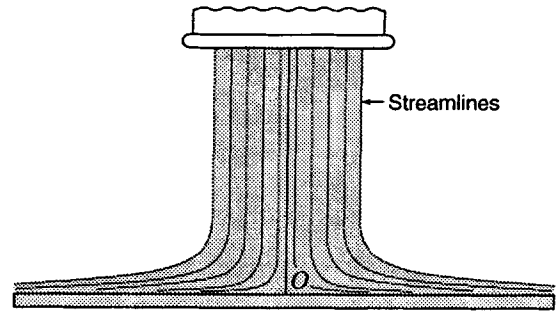

Figure P6.22
6.22 In Fig. P6.22 streamlines are plotted to scale in the plane of the center of a free jet impinging vertically on a horizontal circular plate. The jet diameter is 280 mm and stagnation pressure at point O is 5.5 kPa. By scaling off the pertinent dimensions determine as accurately as possible the velocity of the water as it leaves the plate and the total resultant force exerted by the water on the plate.